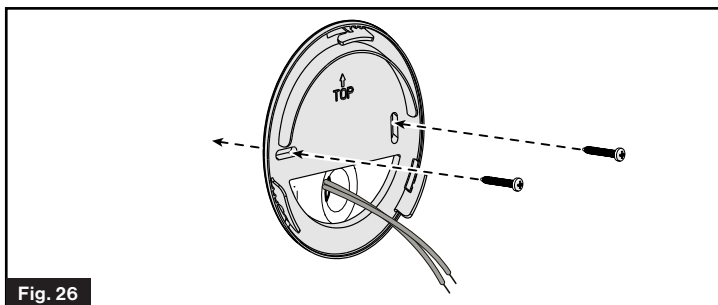

Fig. 26
1. Install the back cover of the wall controller over the  $\frac{3}{4}$ " hole. Make sure the arrow mark is facing up. Fix the back cover on the wall using 2 - #8 (min 1") pan head screws (not provided). (Fig. 26)